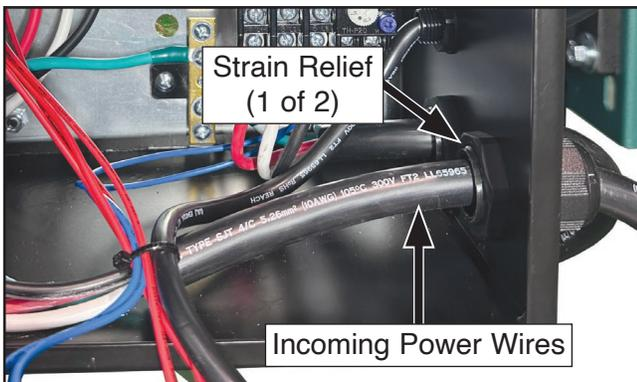

Figure 62. Location of strain relief and power wires in control box.
4. Insert incoming power wires through open strain relief in control box (see **Figure 62**).